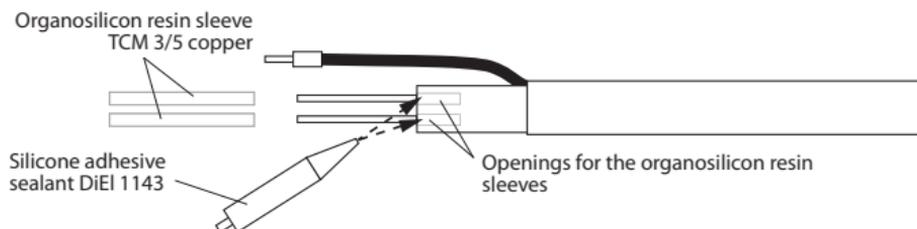

Figure 6
5.1.6. Fill the openings in the connection cap from which the ends of the buswires go out by the adhesive sealant. Slide the sleeves TCM 3/5 med. of organosilicon resin onto the buswires and insert them tightly into the openings in the connection cap (see Figure 6).